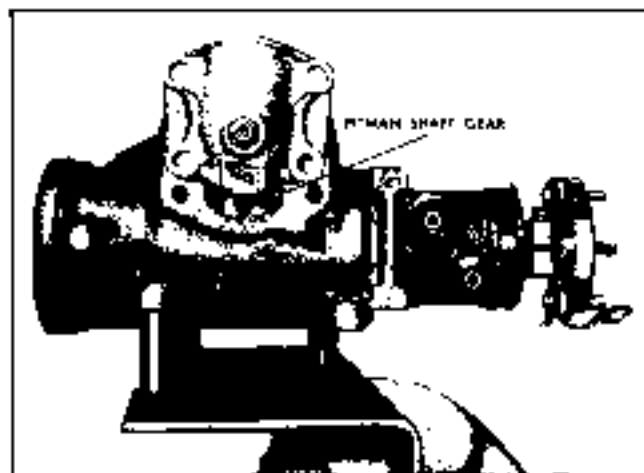

Fig. 9-58 Position of Pitman Shaft Gear for Removal
2. Rotate cover as necessary to see when pitman shaft is centered in gear housing opening while rotating gear coupling (Fig. 9-58)